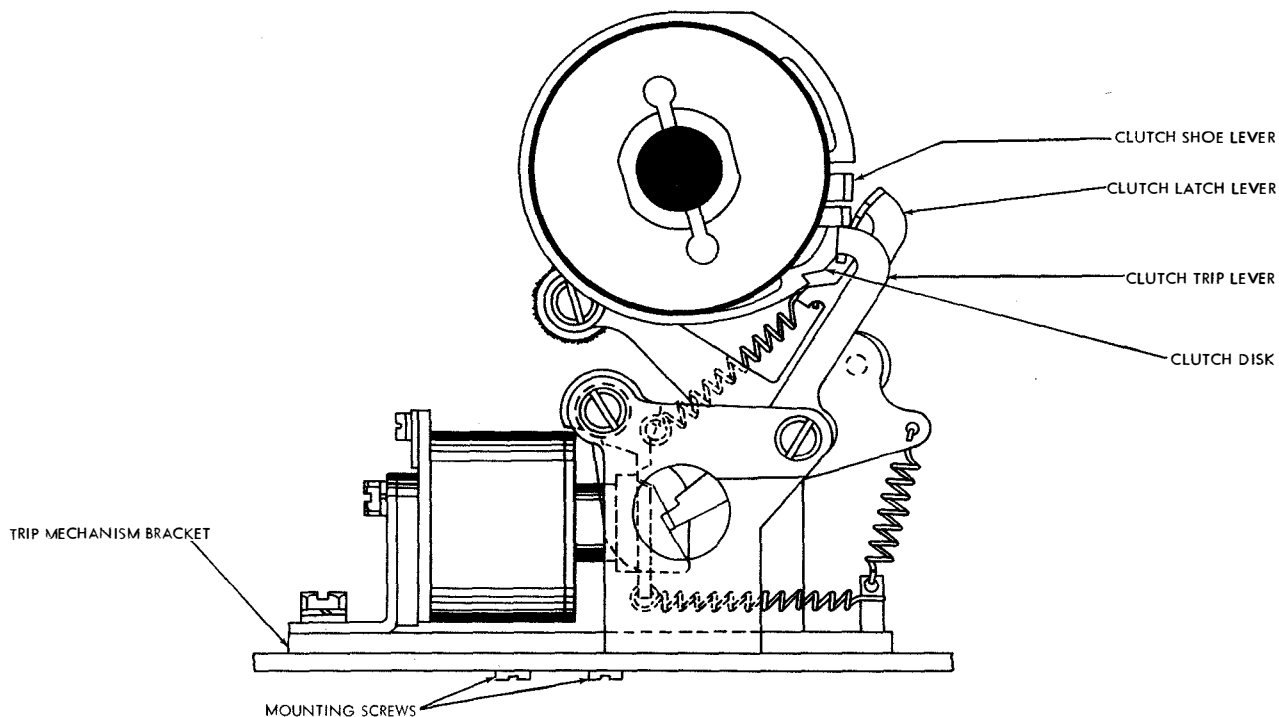

Figure 7-75. Clutch Trip and Latch Levers
(3) CLUTCH TRIP LEVER AND LATCH LEVER. (See figure 7-75.)—When the clutch is disengaged by the clutch trip mechanism, the clutch trip lever should fully engage the clutch shoe lever, and the clutch latch lever should engage the full width of the notch in the clutch disk. To adjust, loosen the trip mechanism bracket mounting screws, disengage the clutch latch lever, and position the trip mechanism bracket.